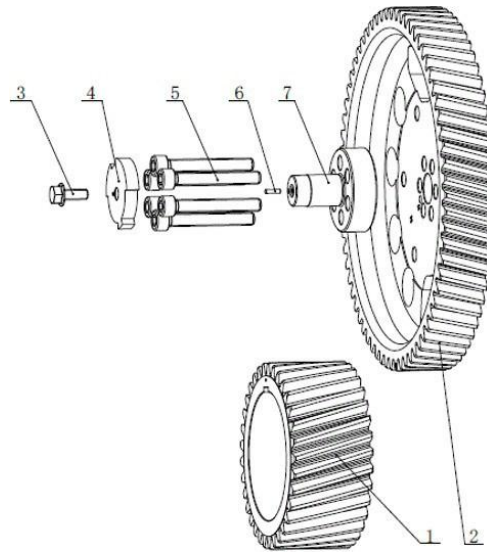

Figure 85. Timing Gears
Turn the crankshaft to make its gear mark "•" straight up and then locate the camshaft timing gear (2) via the cylindrical pin on the camshaft, adjust the camshaft timing gear (2), align the mark "N" on the gear end face with the mark "•" of the crankshaft timing gear (1) as shown below. And then install the connecting shaft (7) on the camshaft timing gear, and make sure to align the connecting shaft with the pin hole on the camshaft shaft timing gear. And then tighten the connecting shaft and camshaft timing gear to the camshaft with hexagon socket head cap screw (5). Tightening torque: (70 ± 5) N.m. Check the backlash between the crankshaft gear and camshaft gear, and the meshing clearance should be 0.09mm-0.15mm. Then connect the signal panel (4) to the connecting shaft (7) via the cylindrical pin (6) and tighten it with hexagonal flange bolt (3). (Refer to figures 85 & 86.